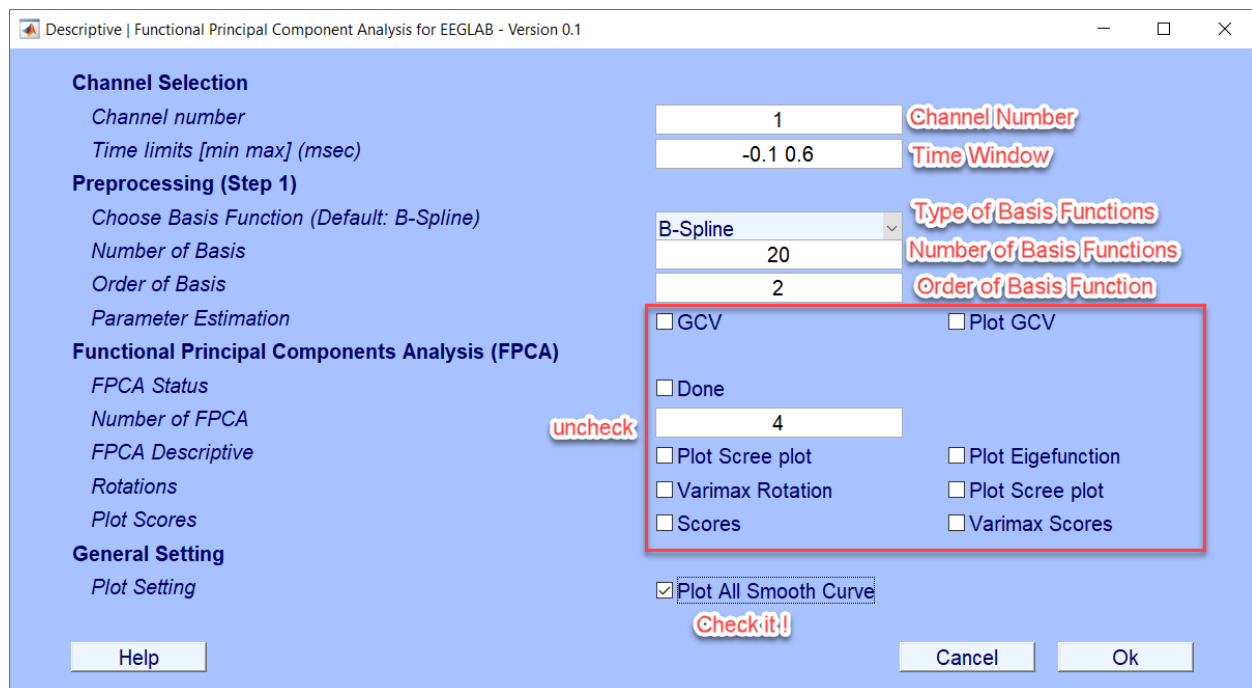

Figure 3 – Smoothing ERP curves (Scenario 1)
- 4- In this GUI, we want to smooth **channel 1** ERP curves for each epoch. The **time windows** are set to **-100 to 600 ms**, the **basis function type** is **B-Spline**, the **number of bases** is **20**, **order of basis** is **2**, uncheck all other options except **Plot All Smooth Curve**. (figure 3) and then **OK**.